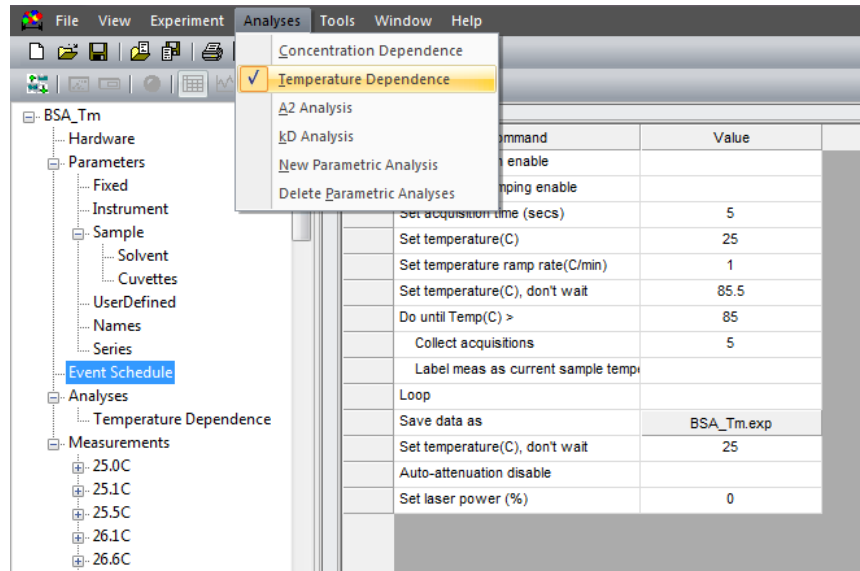

Figure 9: Activating the Temperature Dependence Analysis in the experiment tree.
- 1) Go to the **Analyses** menu and choose **Temperature Dependence**. Clicking on this will make the "Temperature Dependence" analysis appear as a subsection under the **Analyses** menu (Figure 9). This analysis plots the change in R_h obtained from the *Cumulants* fit versus temperature.